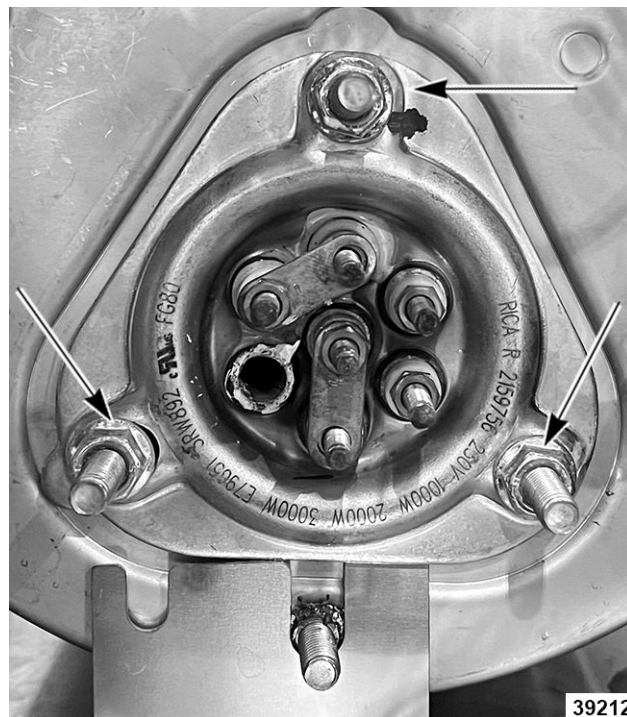

Fig. 41
9. Remove three nuts securing element assembly and remove assembly (Fig. 41).